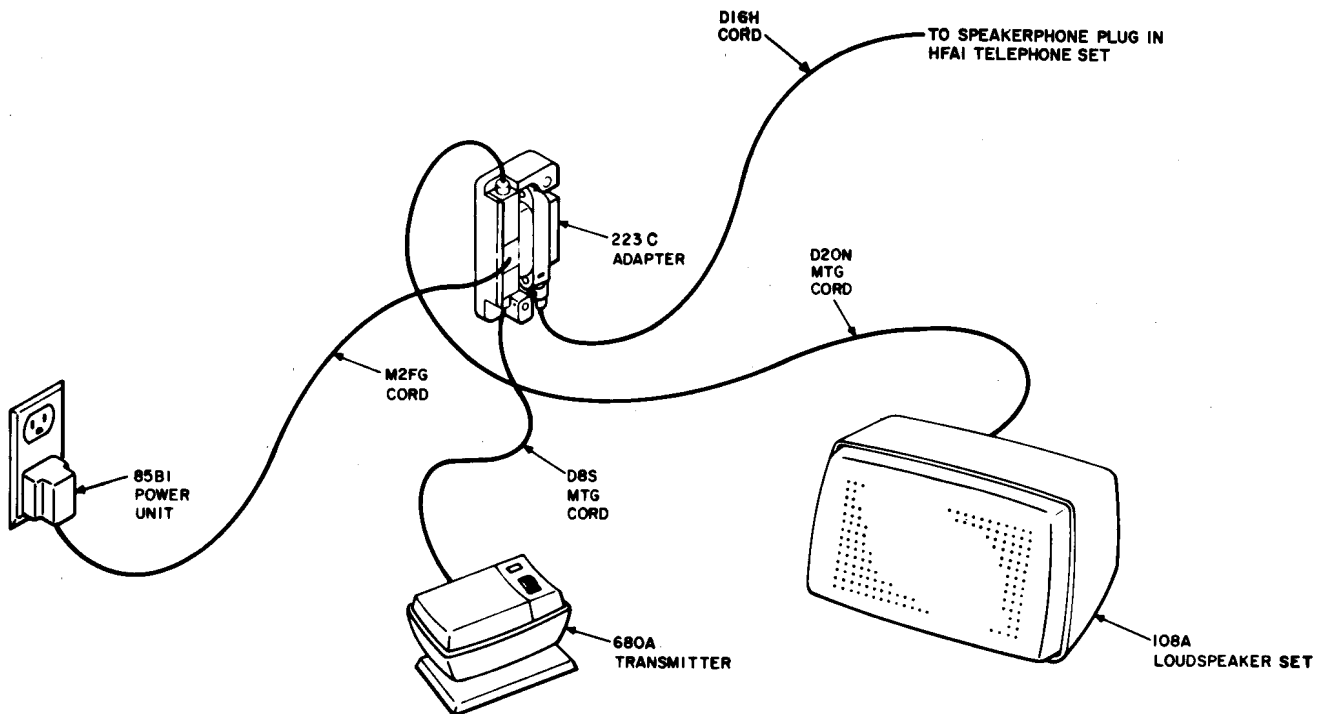

Fig. 40—4A Speakerphone Installation and Connections
- (e) Plug the connectors of the mounting cords from the loudspeaker, the transmitter, and the 85B1 power unit into the connector of the D16H-50 cord supplied with the adapter (Fig. 40). Assemble this group of connectors in the 223C adapter and install the adapter cover.